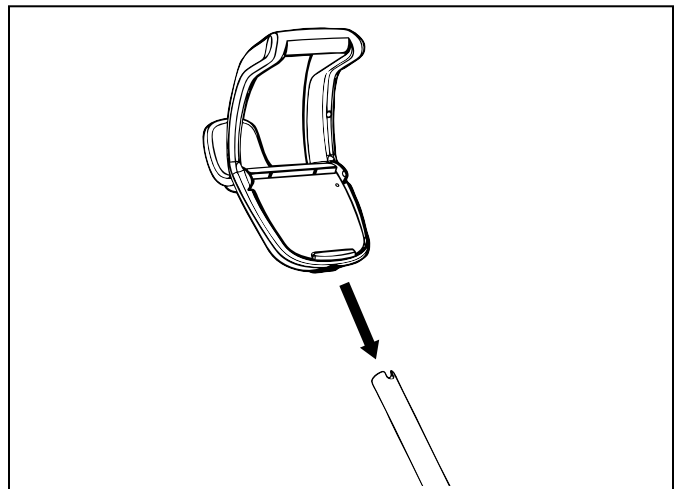

Figure 6. Attach Caddy Handle
- Slide the control unit base / caddy handle attachment down over the metal tubing until it snaps into place. (See Figure 6).